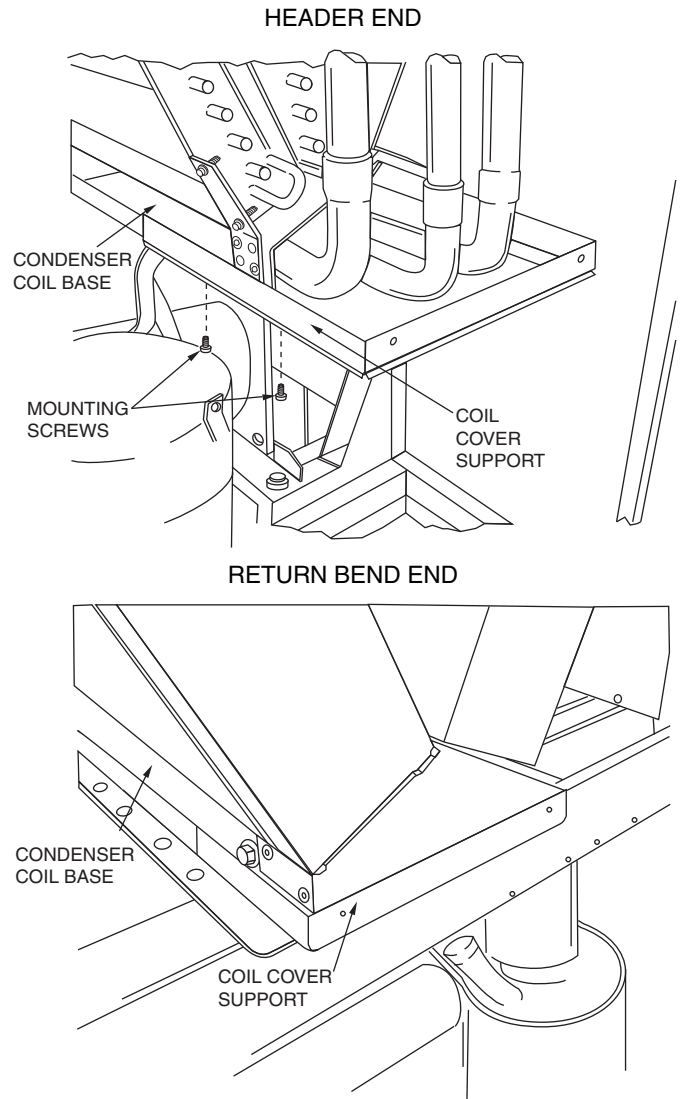

Fig. 1 — Installation of Cover Support
2. Using screws provided, install Cover Support at both Header end and Return Bend end (00EFN900002200A and 00EFN900002300A) or Return Bend end (00EFN900008400A and 00EFN900008500A) of each condenser coil base. See Fig. 1.